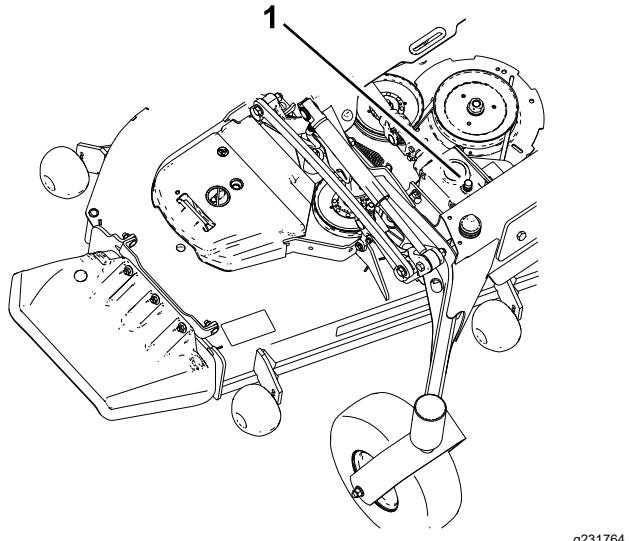

Figure 55
5. Remove the dipstick/fill plug from the top of the gearbox and ensure that the lubricant is between the marks on the dipstick (Figure 55).